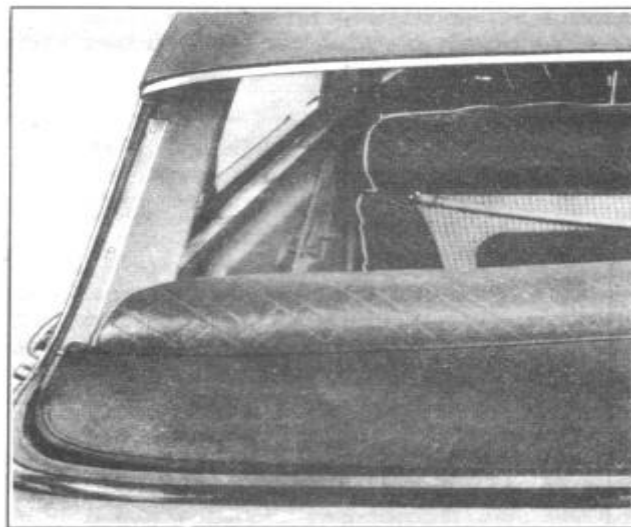

FIGURE 73
4. Remove the upholsterer's tacks from around the rear window opening as shown in Figures 73 and 75, pull headlining loose from cement.